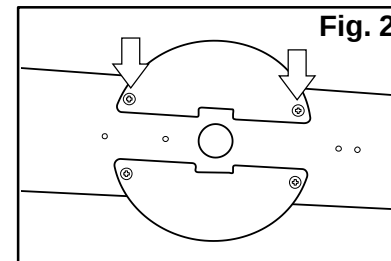

Fig. 2
*Note: If the **fixture** does not sufficiently cover the **outlet box**, screw in the **semi-circular junction box covers** on the back of the **fixture**. (Fig. 2)*